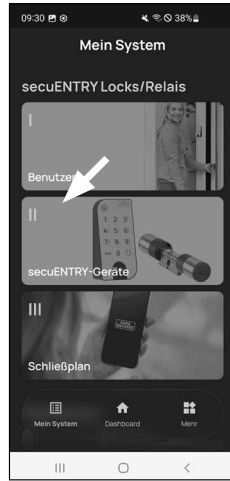

Fig. 1
- 1 Tap on the second menu item "II - secuENTRY units" (Fig. 1).